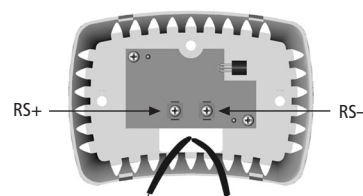

Figure 2
3. Pull the labeled wires through the opening on the sensor back housing. (Figure 2) Secure the sensor to the wall with the 2 screws provided, and level for appearance using the bottom corners.